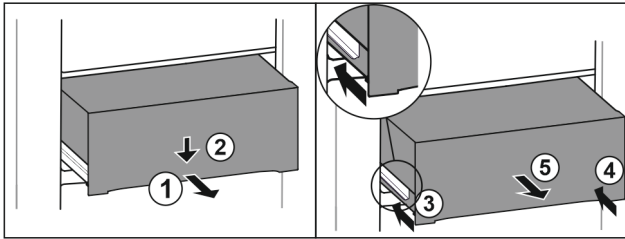

Fig. 129
- ▶ Pull out the drawer halfway. Fig. 129 (1)
- ▶ Press down the drawer on the front. Fig. 129 (2)
- ▶ Push in the left rail approximately 2 cm (13/16 in). Fig. 129 (3)
- ▶ Push in the right rail approximately 2 cm (13/16 in). Fig. 129 (4)
- ▶ Remove drawer to the front. Fig. 129 (5)